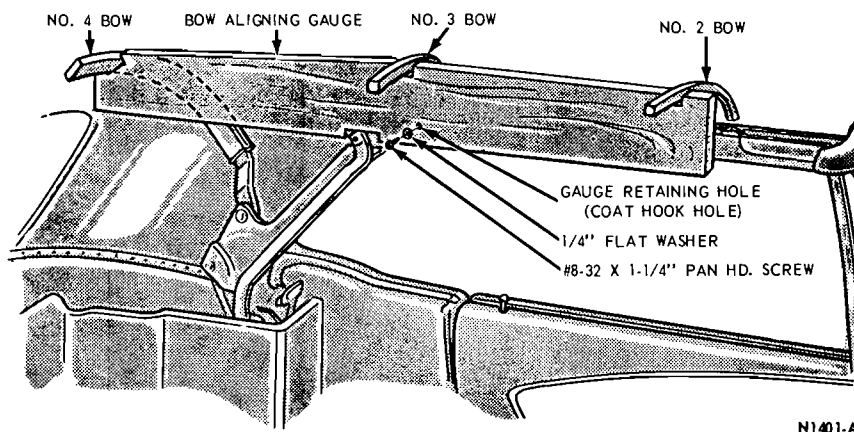

FIG. 15—Bow Locating Gauge Installation—Mustang
12. Install the two fabricated bow locating gauges as shown in Fig. 15.
15. With the bow locating gauge in place (refer to Step 13 under Removal and Fig. 15), install the belt center tacking strip attaching screws to approximately 1/4 to 1/2-inch from the bottoming out position. Install the belt side front tacking strip attaching screws and tighten to within 1/4 to 1/2-inch of bottoming.